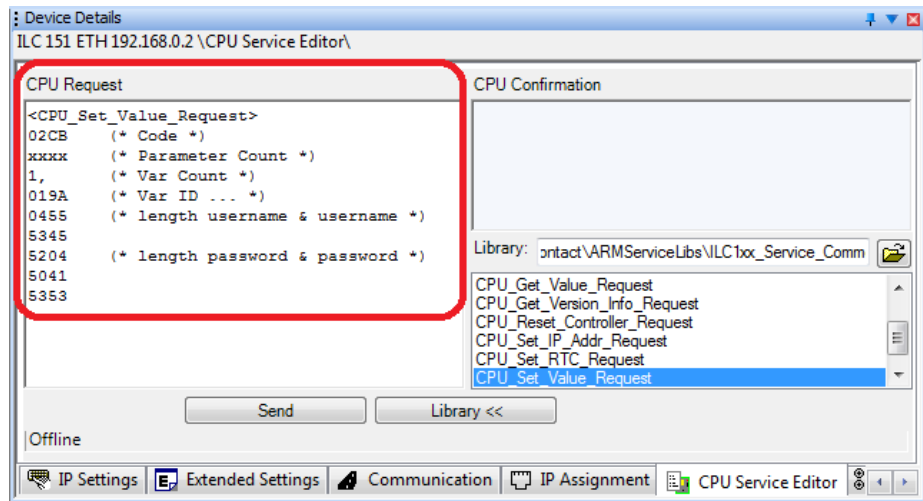

Figure 3-28 Specifying username and password for FTP access
- In the “CPU Request” area for (\* Value ... \*) (changed to (\* length username & username \*) and (\* length password & password \*) in Figure 3-28) enter the desired username and password.
Example (refer to Figure 3-28): username “USER” (length “04”), password “PASS” (length “04”)
Figure 3-28 shows the settings for defining the username “USER” and the password “PASS” in the “CPU Request” area.